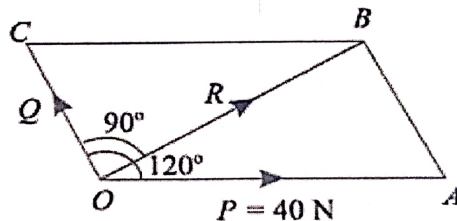

Fig. Q6b: Forces on the Parallelogram body
- b) Two forces act at an angle of 120° . the bigger force is $40N$ and the resultant is perpendicular to the smaller one. Find the smaller force as shown in Figure Q6b (5 Marks)